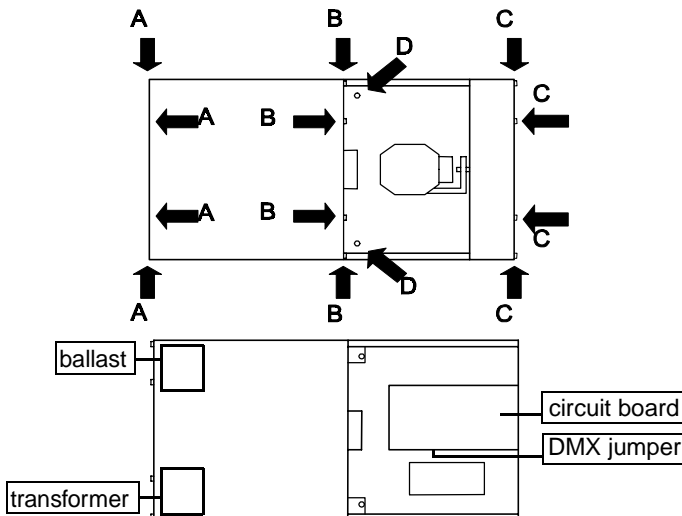

Figure 1
1. Release the 6 screws labelled 'D' and 'C' in figure 1 and carefully remove the complete pan/tilt section. Avoid unplugging the motor cables from the circuit board.
1. Unscrew the 8 screws, labelled 'A' and 'B' in figure 1, that secure the casing over the lamp housing and remove the casing.
2. Locate the ballast at the rear-left corner (see figure 1) and move the GREY wire, labelled 'F', to either the 50 Hz or the 60 Hz terminal to select the local frequency.
2. Locate the ballast at the rear-left corner (see figure 1) and move the GREY wire, labelled 'V', to either the 220 V, 230 V, or 245 V terminal to select the local AC voltage.
2. Locate the transformer at the rear-right corner (see figure 1), and move the BROWN wire, labelled 'V', to either the 100 V, 110 V, or the 120 V terminal to select the local AC voltage.